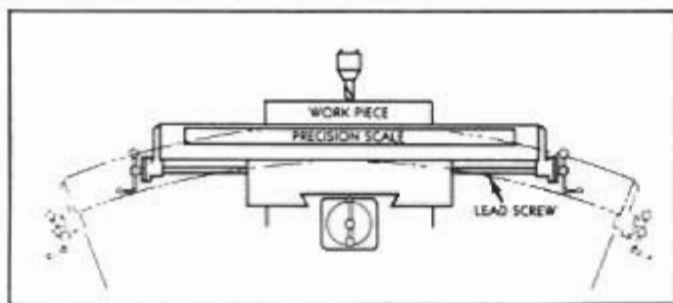

Figure 4-1. Exaggerated Abbé Error Curve of Table Travel on a Milling Machine with an Overhanging Table
- Gravity causes deflections in the machine tool structure (see Figure 4-1), particularly when a heavy workpiece is placed on a machine with overhanging table or ways. A result of these deflections is commonly called Abbé error. (The following paragraphs provide further explanation.)